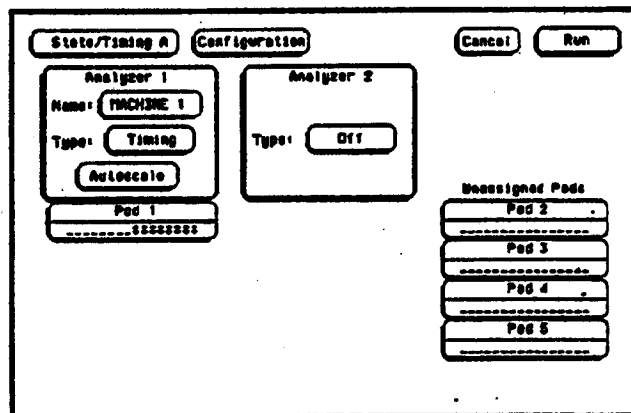

Figure 3-35. Configuration Screen
- Assign the pod under test to Analyzer 1 in the Configuration Screen as shown in figure 3-35. Refer to steps a and b if unfamiliar with menus.
2. Assign the pod under test to Analyzer 1 in the Configuration screen as shown in figure 3-35.